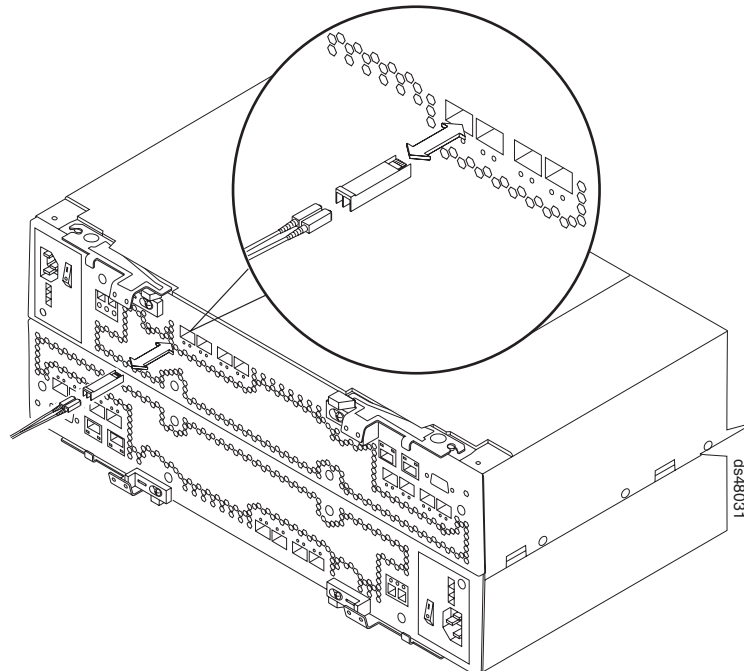

Figure 27. Replacing an SFP module
4. Insert the SFP module into the fibre channel port until it clicks into place. See Figure 27.
Note: The alignment of the fibre channel ports on controller A are opposite those of controller B. Before inserting an SFP module into a port, verify that the SFP module is rotated correctly to match the alignment of the port on the RAID controller. Do not force-fit. For fibre channel ports in controller A, SFPs should be inserted with the exposed printed circuit facing up (as shown in Figure 27). For fibre channel ports in controller B, SFPs should be inserted with the exposed printed circuit facing down.